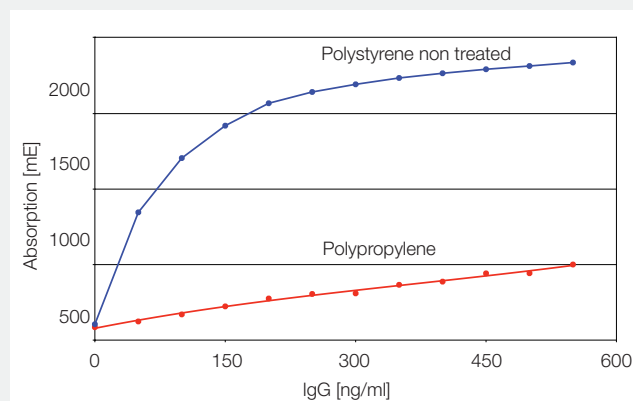

Figure 7: Binding of human IgG to polystyrene and polypropylene.
Polypropylene (PP) has low biomolecular binding characteristics (Fig. 7), high temperature tolerance and high resistance against many solvents such as DMSO (Table 1). Polypropylene can also easily be heat-sealed, a major request in high-throughput screening where heat sealing is the most common way to close a microplate.